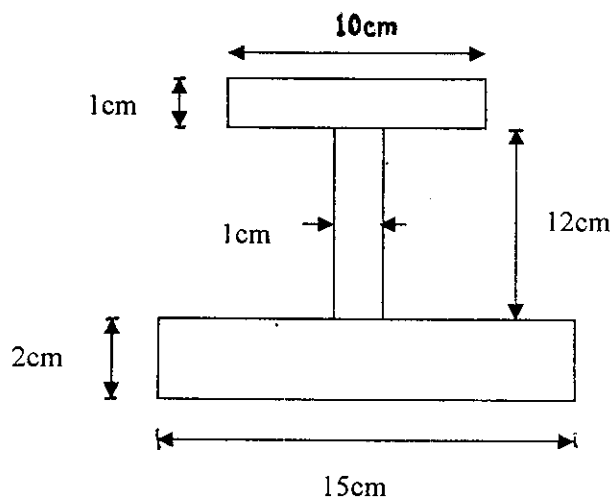

Figure 3
- b) Find the shear centre for the I-section of unequal flanges as shown in figure 3.